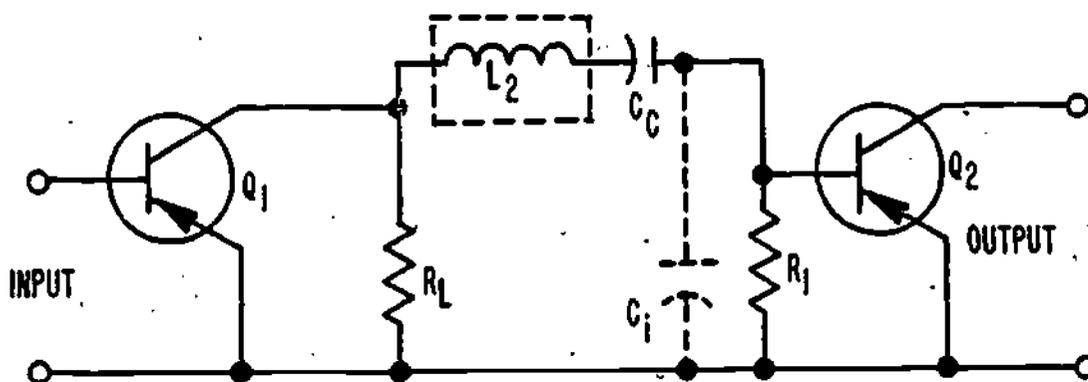

Figure 14
13. Shunt type compensation has improved the high frequency response of the basic video amplifier. However, the improved frequency response still may not be high enough for some applications. Fortunately, there is another way to improve the high frequency response of a video amplifier. This is done by adding an inductor in series with the signal path and  $C_i$  as shown in Figure 14.
In Figure 14, the  $L_2$ - $C_i$  circuit at resonance (maximizes/minimizes) the impedance between  $Q_1$  and  $Q_2$  and (increases/decreases) the voltage applied to  $Q_2$ .